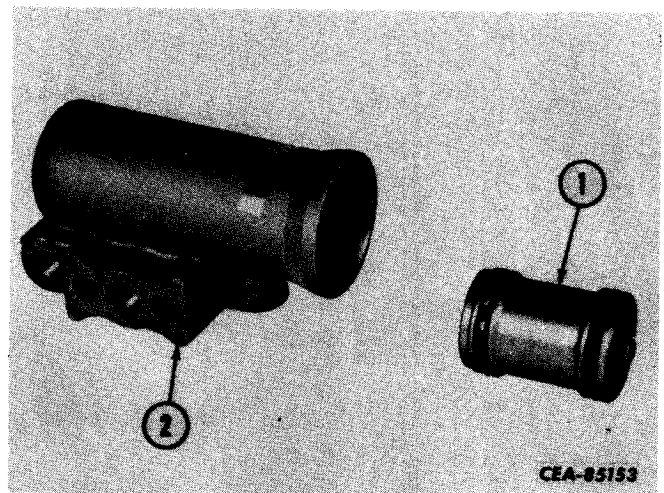

Figure 13-7
Install piston assembly (1, Fig. 13-7) in governor body (2).